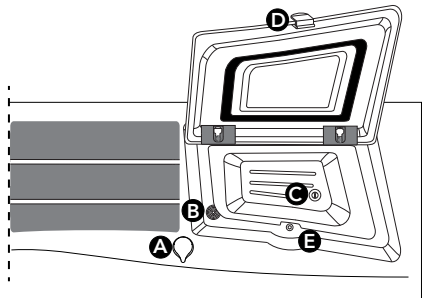

Figure 12.1c
From the Settings Menu (Figure 12.1a) tap **SunCooler™...** to enter the SunCooler Drain Menu, Figure 12.1b. When water accumulates within the SunCooler bins, draining of the water can be done in one of two ways, internally into the hot tub (Figure 12.1d) or externally out of the hot tub (Figure 12.1f). There are also SunCooler perimeter drains, Figure 12.1c. When water accumulates, in the perimeter, draining is continuous any time pump 1 is running.
4. Locate the air control that works with the bin drain, Figure 12.1c, and close it by turning it counterclockwise.